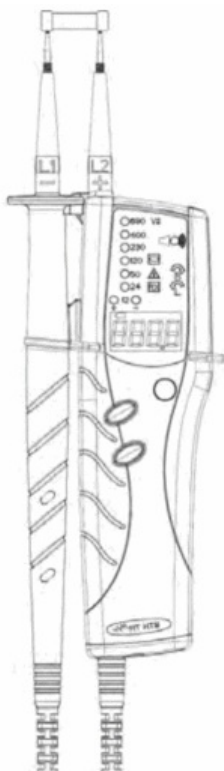

Fig. 6: Continuity test
1. Connect the measuring leads L1 and L2 to the object to be tested (see Fig. 6).